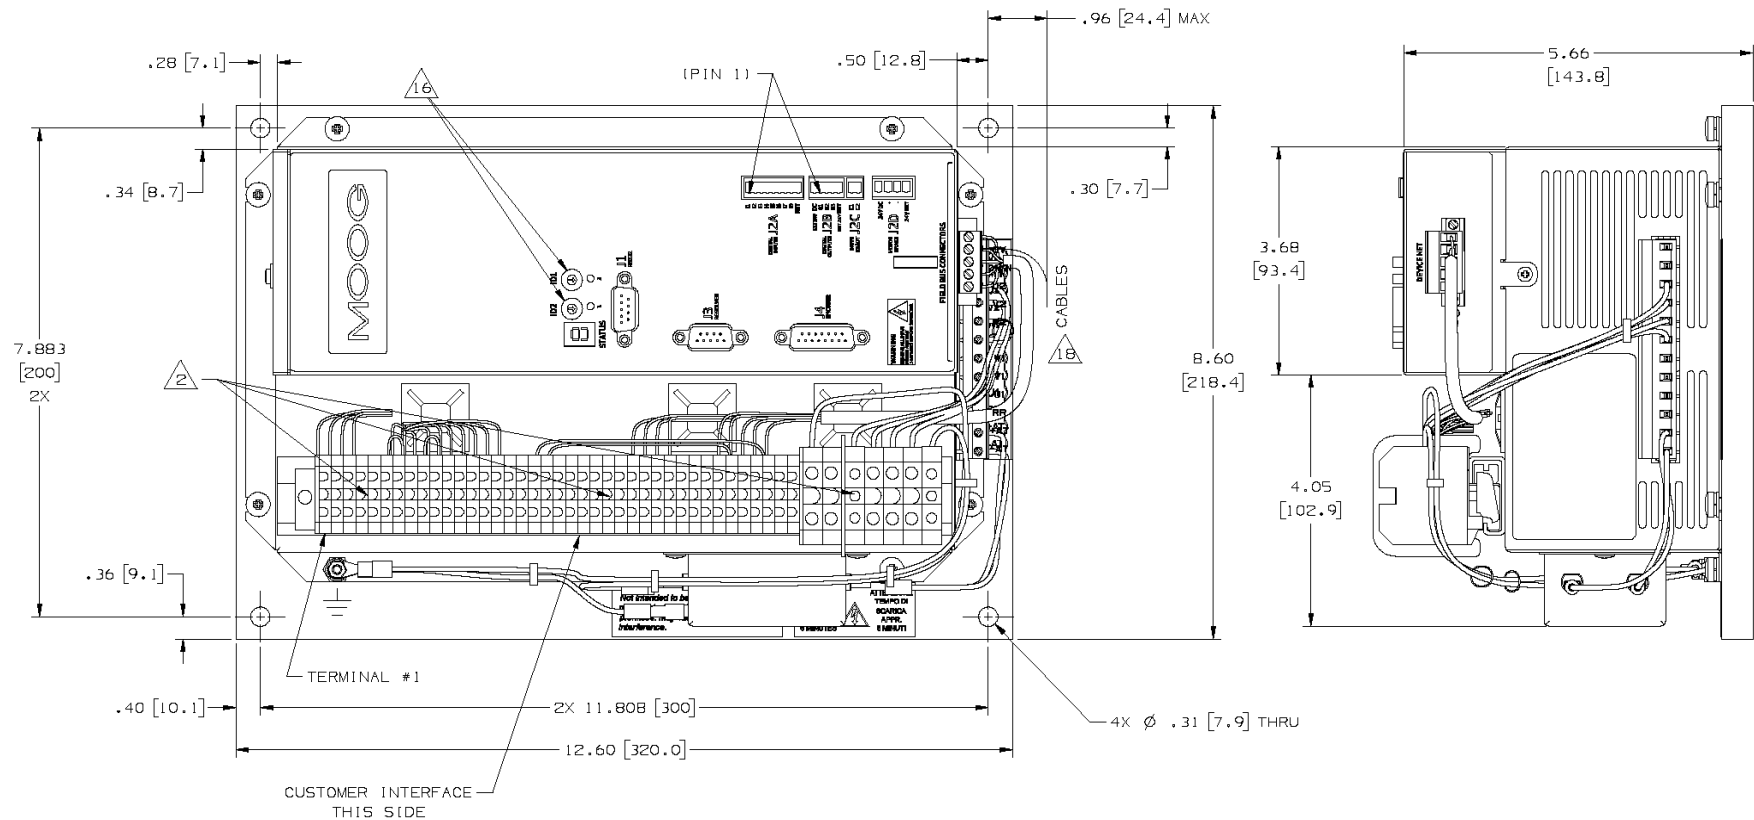

Figure I.3: Front and bottom view of CSA Cold Plate DeviceNet Servo Drive with full terminal strip. Cables are not completely shown.
Figure I.5: Front and bottom view of CSA Cold Plate Dual CAN w/ Analog I/O Servo Drive with reduced terminal strip. Cables are not completely shown. (Reference Figure I.3 for dimensions)
**Figure I.6: Front and bottom view of CSA Cold Plate Dual CAN w/o Analog I/O Servo Drive with no terminal strip. Cables are not completely shown. (Reference Figure I.3 for dimensions)**